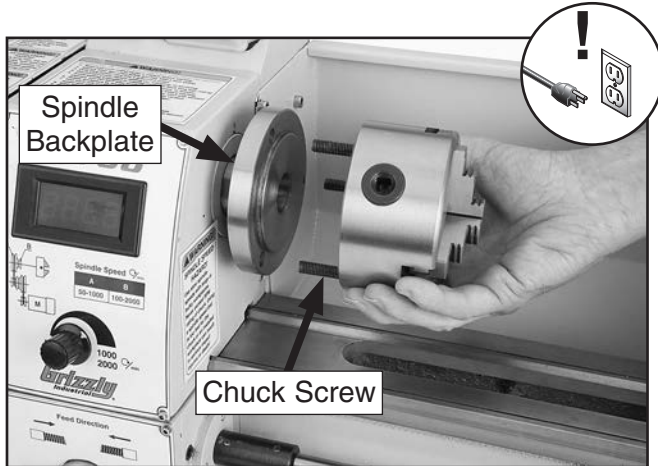

Figure 25. Inserting chuck into backplate.
4. Insert chuck screws through mounting holes in spindle backplate, as shown in **Figure 25**. Make sure chuck seats firmly and evenly against backplate shoulder.